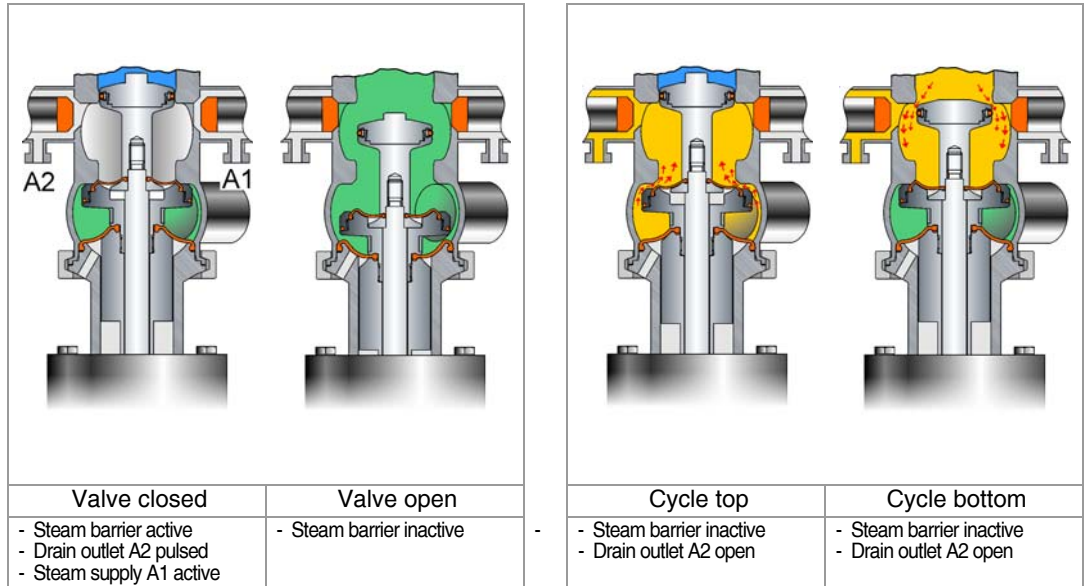

Fig. 1
- Danger of scalding and burns to parts of your body from liquids escaping from the drain outlet fig. 1 /page 4 and the leakage drain fig. 4 /page 10.